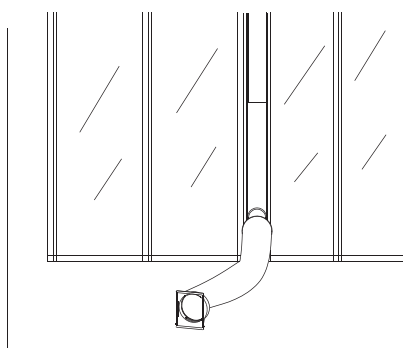

Fig 7
7. Install the exhaust air duct, window kit, and accessories onto the window as shown in Fig 7. Ensure all components are fitted securely and positioned correctly.